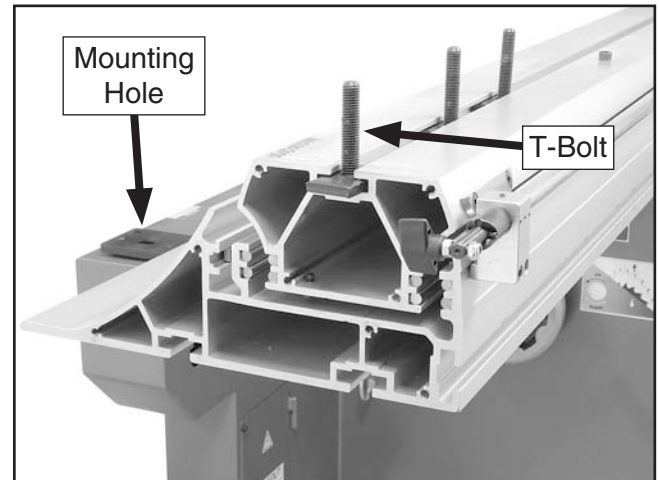

Figure 20. T-bolts inserted into the sliding table T-slot.
- Insert the (3) M12-1.75 x 60 T-bolts into the sliding table T-slot, as shown in **Figure 20**, and space them apart the same distance as the mounting holes in the frame top.